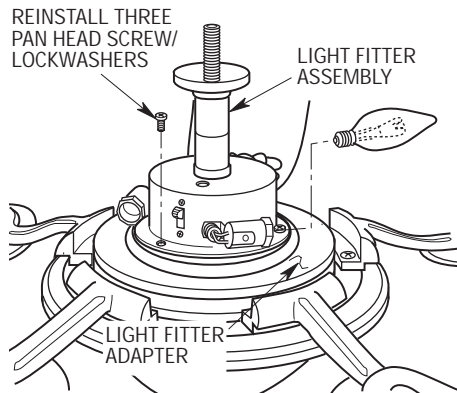

Figure 5
- 9. Position the light fitter assembly on the light fitter adapter. Line up the three holes on the light fitter with the threaded holes in the adapter and reinstall three screw/lockwashers (previously removed) (Figure 5).